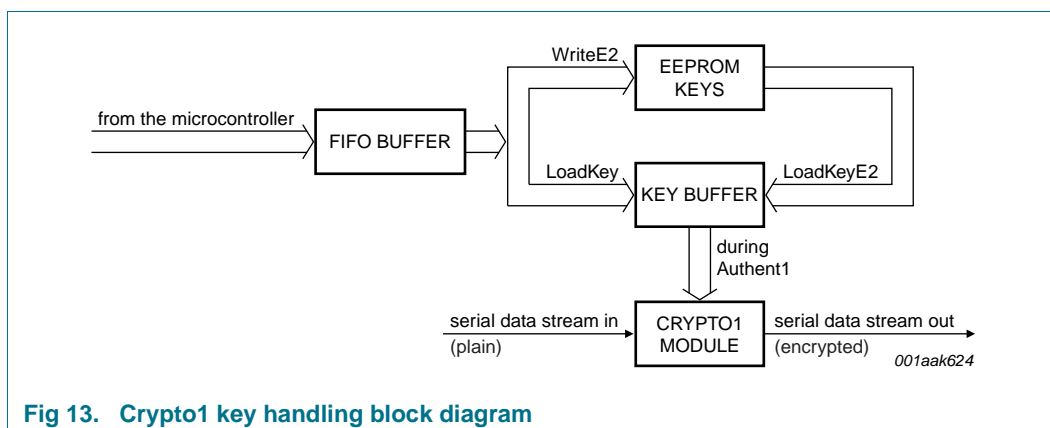

Fig 13. Crypto1 key handling block diagram
- the microprocessor's FIFO buffer using the LoadKey command (see Section 11.6.2 on page 81). This is shown in Figure 13.